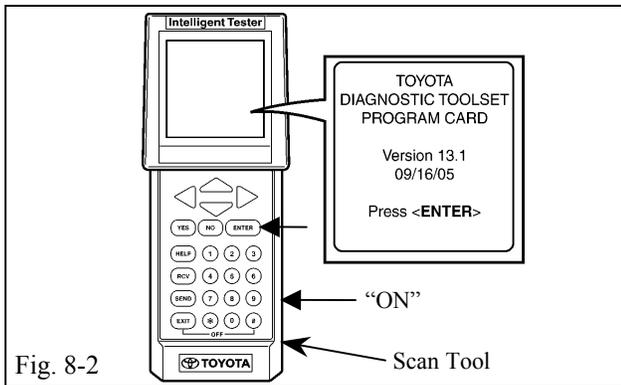

Fig. 8-2
- (c) Push the scan tool main switch "ON" and then press the "ENTER" key. (Fig. 8-2)